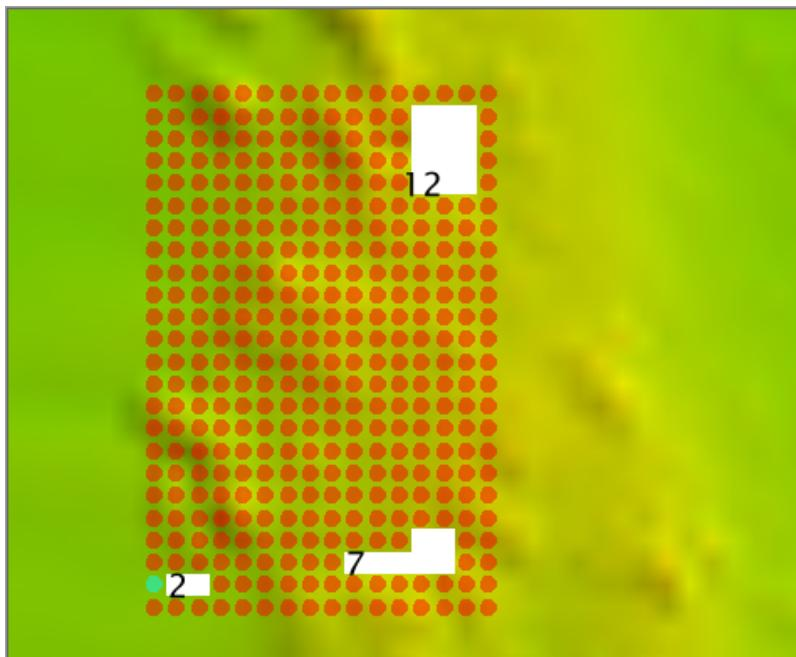

Fig. 2.22: Example for All holes.
- In the example in (Fig. 2.22), the **All holes** setting marks three holes of 12, 7, and 2 nodes.